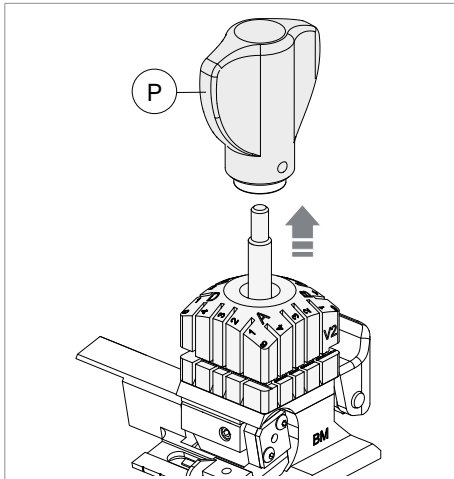

Fig. 140
- 3) Unscrew the knob (P) and remove it (Fig. 140).